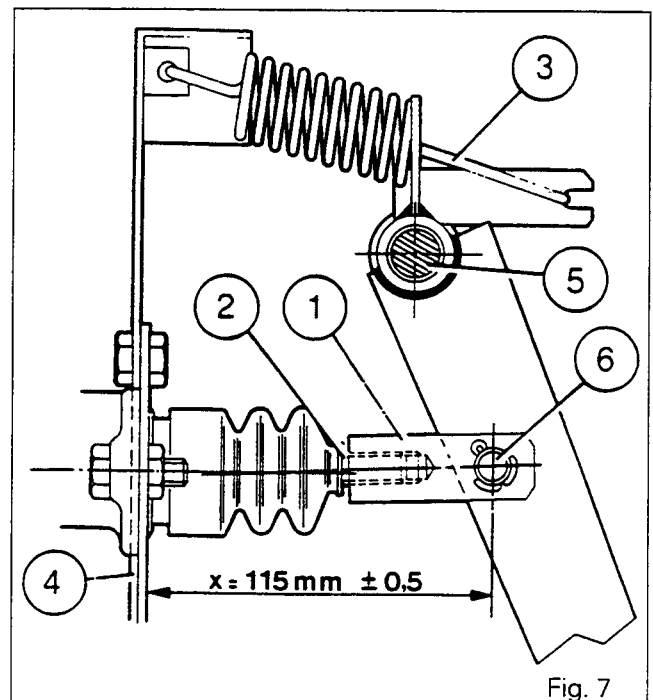

Fig. 7
1. Smear the pins (5) and (6) with molybdenum disulphide (Fig. 7).
2. Smear the clevis (1) with Loctite 542 and screw it on to the rod (2).
3. Fit the return spring (3).
4. Adjust the clevis so as to obtain a distance X of  $115 \text{ mm} \pm 0.5$  between the support (4) and the clevis fastening pin.